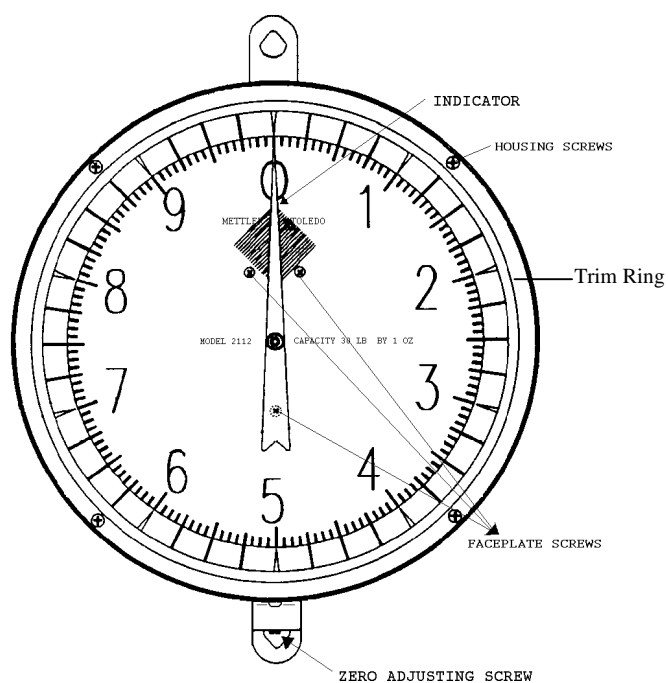

Figure 4
1. Place the scale on a clean flat working surface and remove both trim and glass by removing eight housing screws and four rod supports(Figure 4).
3. Remove three screws holding back chart to frame. Remove chart to expose inner mechanics of the scale (Figure 4).